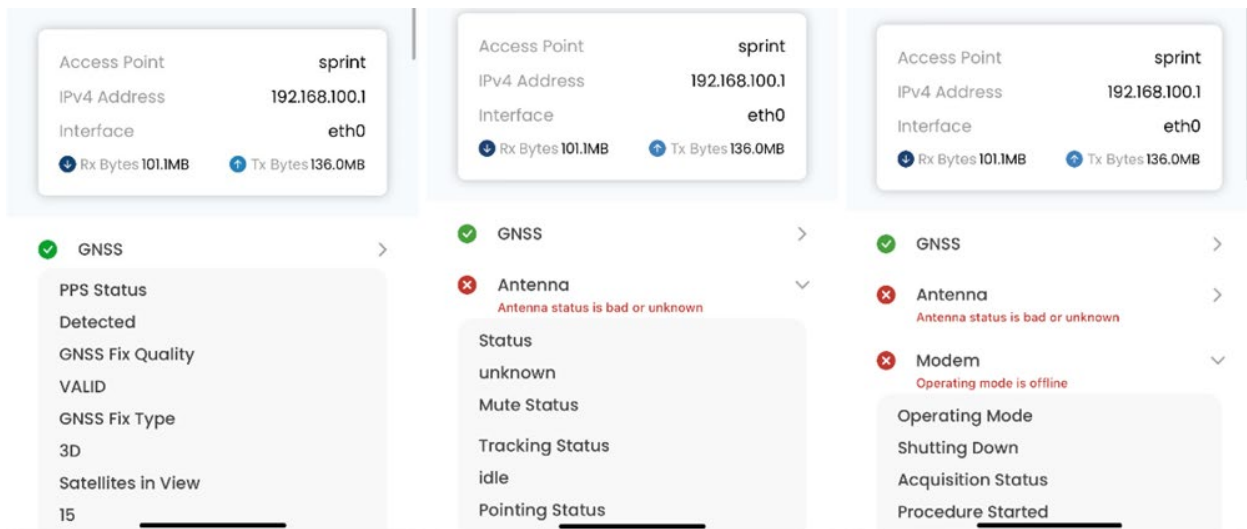

Figure 107: GNSS, Antenna, Modem status screens for UT in offline state
5. If the **Status** shows *Online* and you want to view more information about the UT components click on **GNSS**, **Antenna** and **Modem** links to view additional status information shown in Figure 107.
- If the **Status** shows *Offline*, click on **GNSS, Antenna and Modem** links to view additional status information shown in Figure 107.